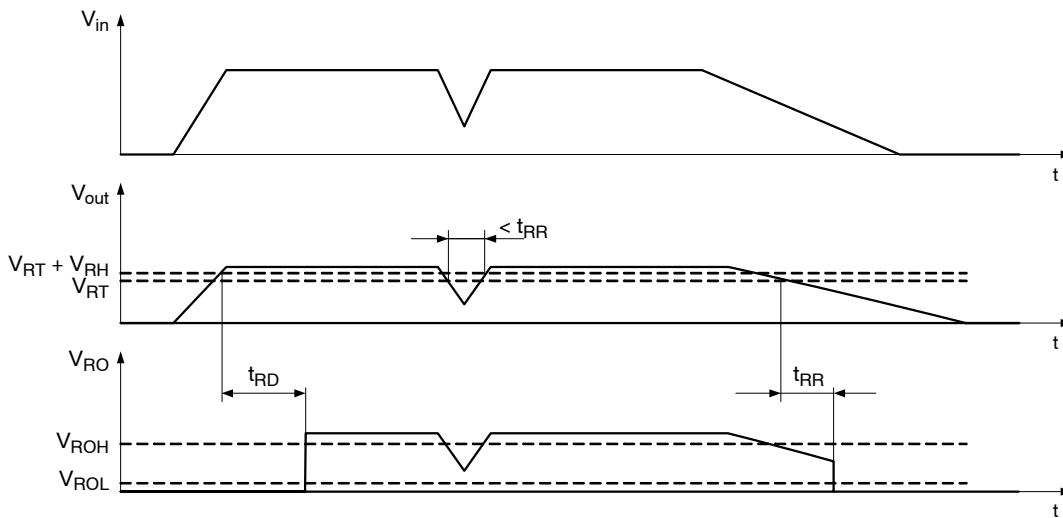

Figure 31. Reset Function and Timing Diagram
A reset signal is provided on the Reset Output (RO) pin to provide feedback to the microprocessor of an out of regulation condition. The timing diagram of reset function is shown in Figure 31. This is in the form of a logic signal on RO. Output voltage conditions below the RESET threshold cause RO to go low. The RO integrity is maintained down to Vout = 1.0 V. For 5 V voltage option, the Reset Output (RO) circuitry includes internal pull-up (30 kΩ) connected to the output (Vout). No external pull-up is necessary. For voltage options and 3.3 V RO is open drain output and external pull-up resistor is required. Select pull-up resistor in range between 5 kΩ to 100 kΩ with respect to IROmax and IROLK limits to keep VRO logic levels at appropriate range.